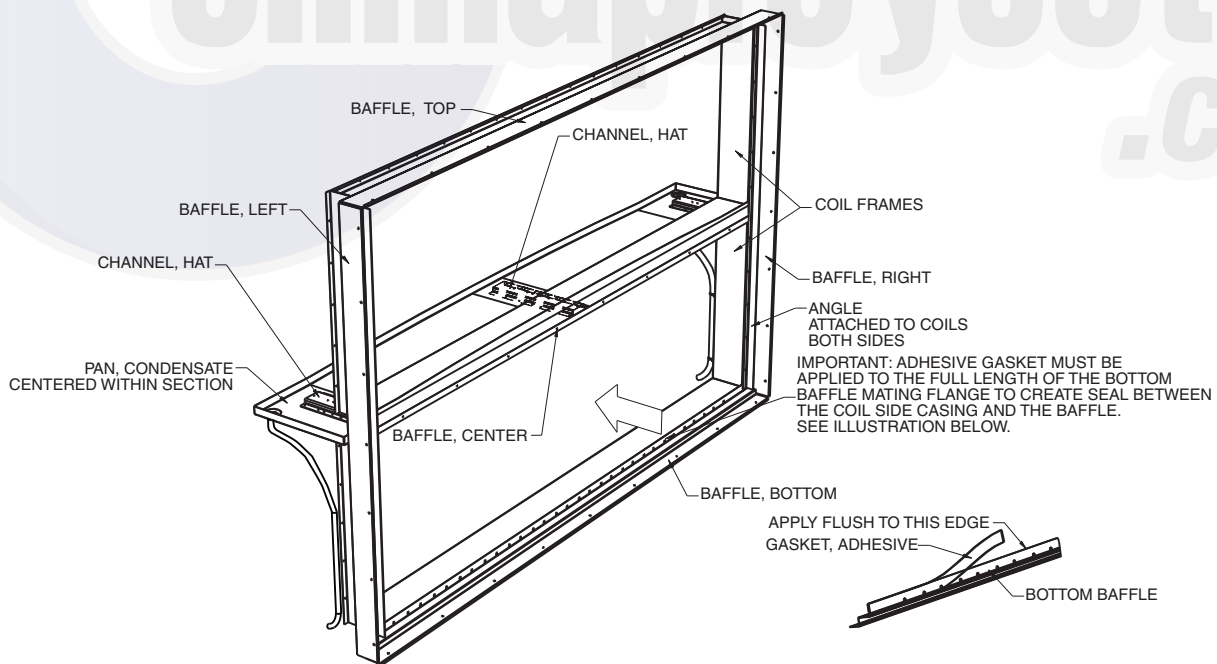

Fig. 86 — Double Slope Condensate Drain — Apply Gasket
5. Before placing the coils inside the unit, apply the adhesive backed gasket to the lower baffle, spanning the entire unit, on the surface that will contact the coil (see Fig. 86).
- b. Place the heavy vertical angle (which is full height of the finished coil bank) along the upstream right and left side of the mounting baffles (see Fig. 86). Install screws through this angle first and then into the baffles, engaging the coil tube sheet mounting holes and securing the coil within the unit.
8. For 42T units and larger (both T and W units) with stacked coils, the upper drain pan will have a double slope with drains at either end. Secure the spacer (hot channel) to the top center of the lower coil casings (see Fig. 86).
9. For a double slope drain pan, secure two spacers (hat channels) to each end of the bottom of the upper coil casing before placing the coil in position (refer to Fig. 86). For single slope drain pan secure spacer (hat channel) to achieve the intended slope (left or right).
13. On the upstream side of the stacked coils, attach the center baffle (see Fig. 86), spanning the two coils with the crease in the baffle away from the coils, centering it between the side baffles, and aligning the baffle with the holes in the coil casings.
16. Secure the uppermost coil from the upstream side, so that the fastening screws provided pass through the vertical angle and the baffles and engage the coil casing. See Fig. 86.